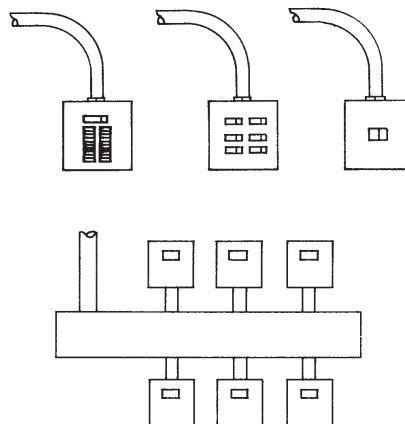

Figure 10-19. Permissible service disconnects.
Section 230.71(A) of the NEC requires that disconnect means or service entrance conductors cannot exceed six switches either in a single enclosure or a group of separate enclosures. Several permissible arrangements are shown in **Figure 10-19**.